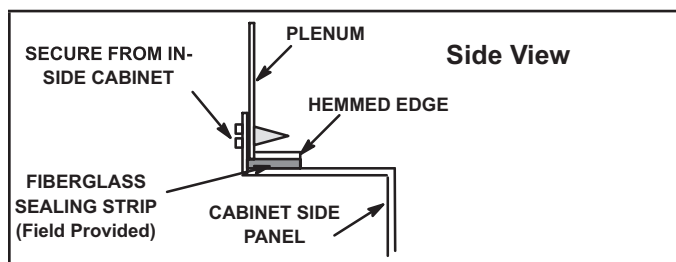

FIGURE 11
- 4 - In closet installations, it may be impossible to install sheet metal screws from the outside. In this case, make plenum with a removable front and install screws from the inside (FIGURE 11).